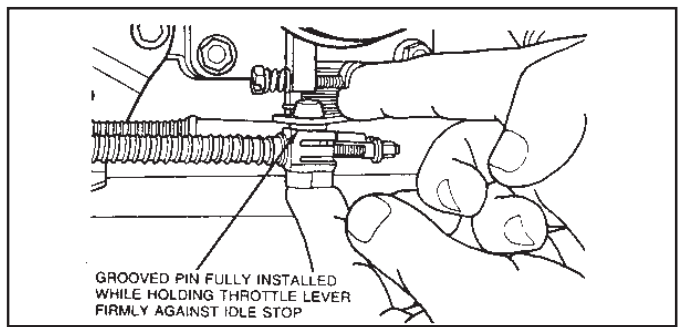

Figure 29
- 7.13 Insert grooved pin back into grommet. **(See Fig. 29.)**